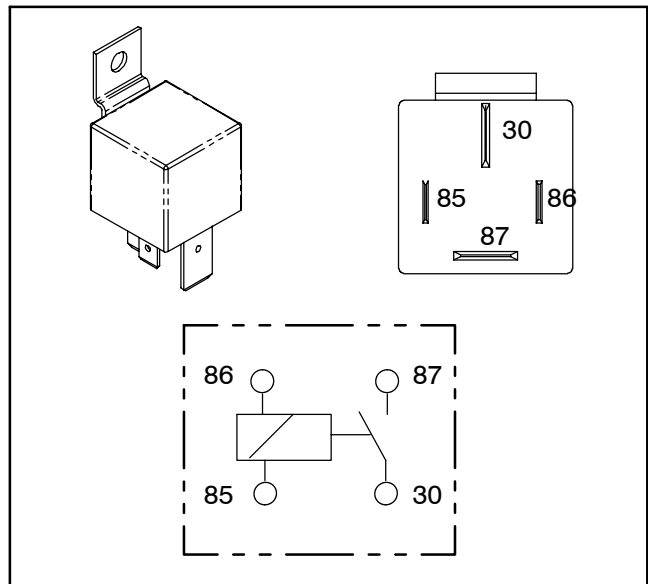

Figure 43
4. Verify coil resistance between terminals 85 and 86 with a multimeter (ohms setting) (Fig. 43). Resistance should be approximately 72 ohms.